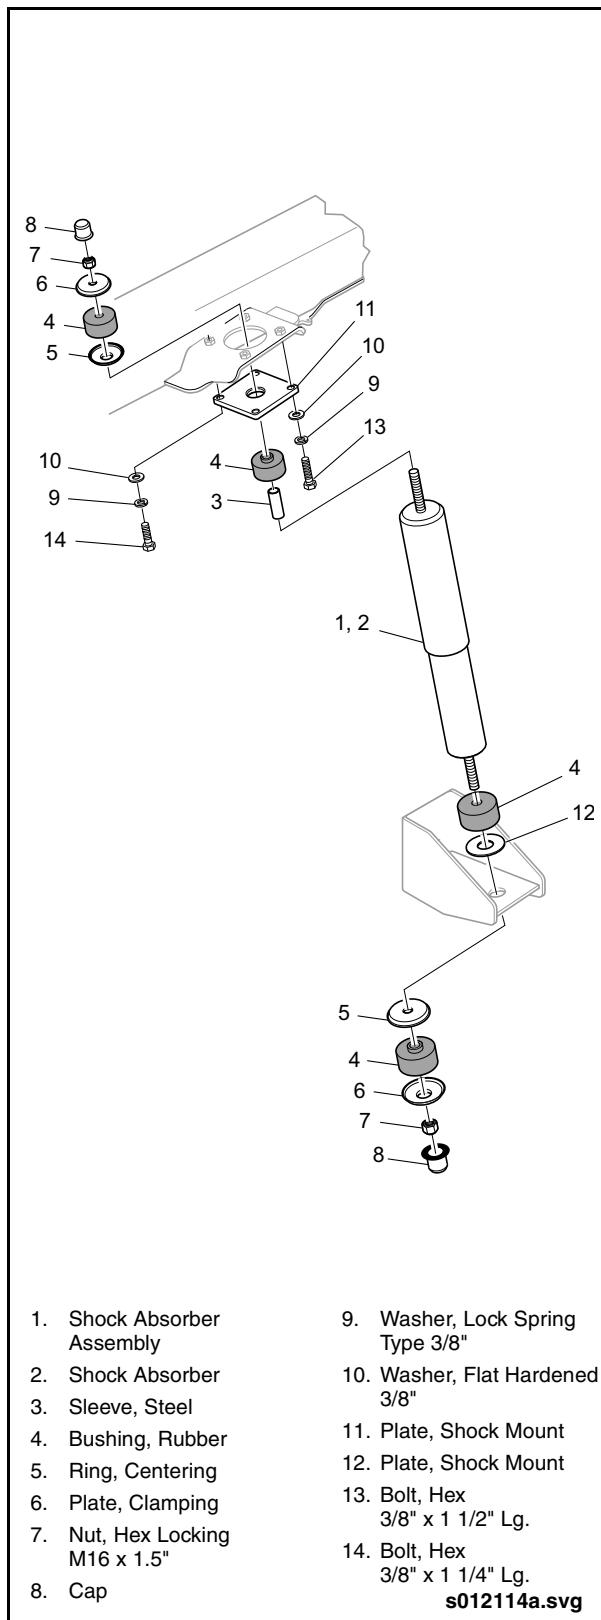

Fig. 2-106: Shock Absorber Removal & Installation
2. Remove the four bolts retaining the upper shock mounting plate to the chassis bracket. See "Fig. 2-106: Shock Absorber Removal & Installation" on page 90.